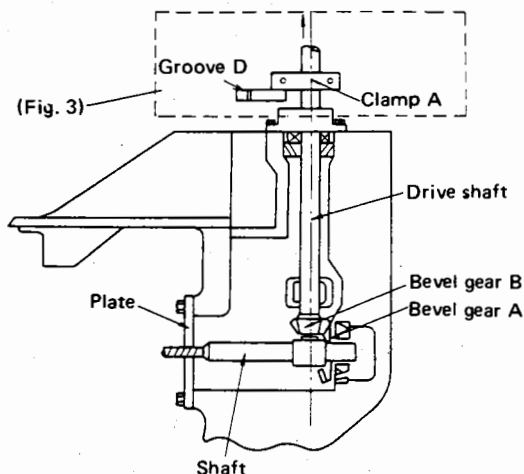

Fig. 16
2. (Fig. 16) Fit the collar side of the shaft into the bearing portion of the bevel gear A and install the plate in the gear case. (In this case, when the plate is not adequately screwed into (A), it can not be installed correctly since the shaft presses the bevel gear A. Therefore, tighten (A) adequately.) Screw the shaft with a screwdriver applied to the slotted groove of the threaded end in order to fix the bevel gear A.
3. (Fig. 16) Install the clamps A and B in the drive shaft. Turn the drive shaft while pulling it up in the direction of arrow and read the deflection at the groove D using a dial indicator. When the reading of the dial gauge is between 0.33 and 0.54mm, the backlash is between 0.08mm and 0.13mm which is normal.